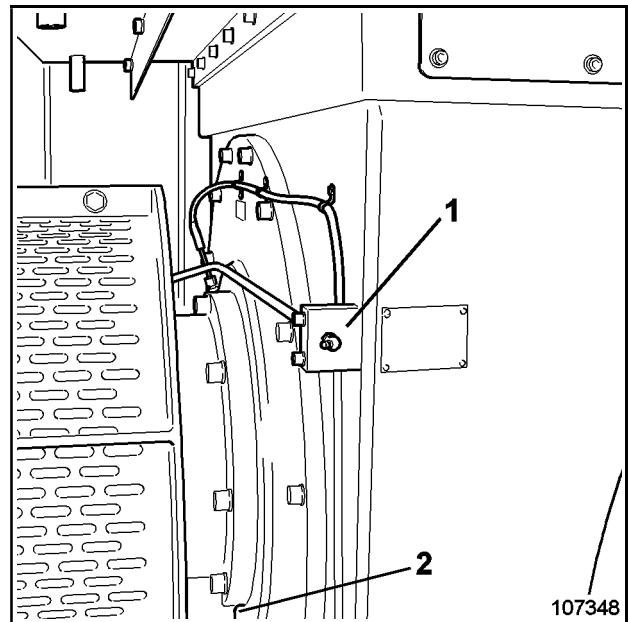
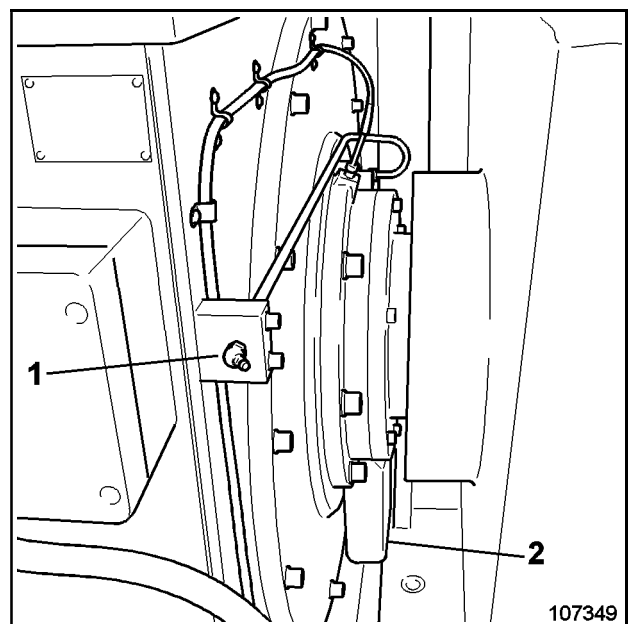

Fig. 3-14:
Fig. 3-15:
- Remove the sump plugs from beneath the bearing cavities on the non drive end (NDE; 2, Fig. 3-14:) and from the drive end (DE; 2, Fig. 3-15:).
- Pump recommended grease into drive end bearing (1, Fig. 3-14:), 20-25 pumps with a hand pump. Pump very slowly to allow grease to move around the bearing while pumping.
- Lubricate the motor bearing at the non drive end (NDE) the same way (1, Fig. 3-15:).
- Refit plugs (2) and send machine back to work.